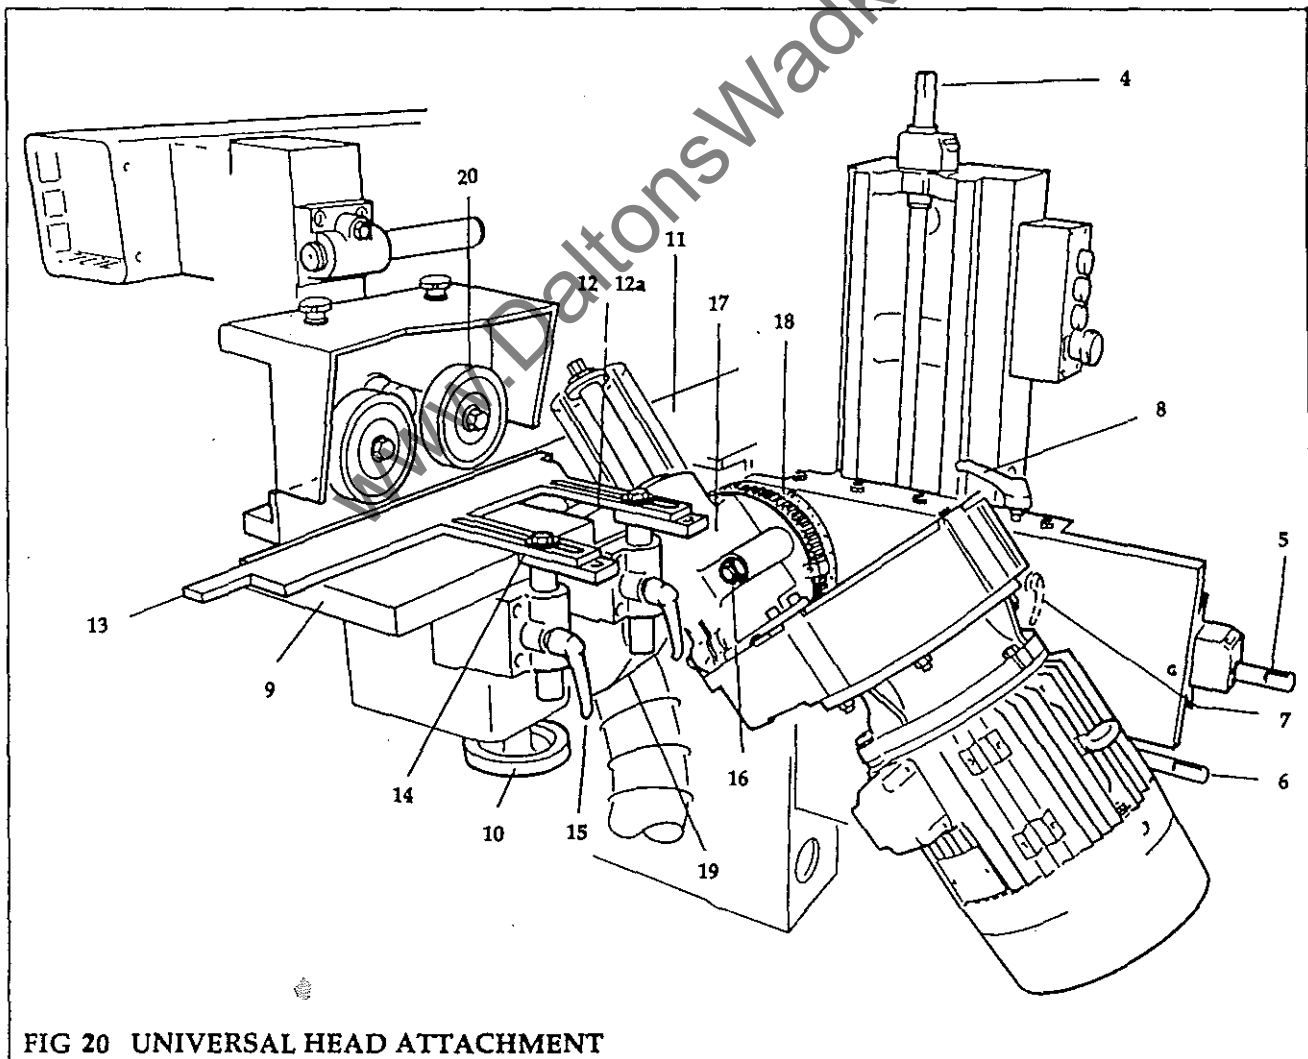

FIG 20 UNIVERSAL HEAD ATTACHMENT
Universal Head Modes (fig 20, 21, 22)
- (5) Set guide (13) for width and height using setscrews (14) and locking handles (15) (see fig 20)
- (6) Select reverse motor drive (left hand position REV) at control panel. Check rotation of spindle.
- (7) Before feeding the timber, spin the cutterblock to ensure there is adequate clearance at dust hood and moving parts.
In Top Horizontal Mode (fig 20)
The universal head in the nearside vertical mode will accommodate a cutterblock having a cutting circle of 125 to 180mm. The spindle can be positioned at any angle between vertical and horizontal as required (see fig 20), using the wormdrive shaft (6). In addition, the cutter can be positioned vertically and laterally in relation to the workpiece, in increments of 0.1mm, using the traverse screws (4) and (5).